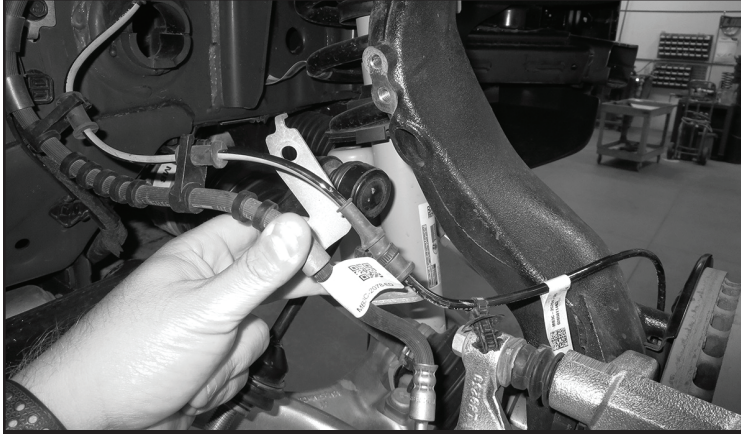

FIGURE 1 - STEP 2
2. Disconnect the factory brake lines from the factory knuckle. Save hardware. **SEE FIGURE 1**